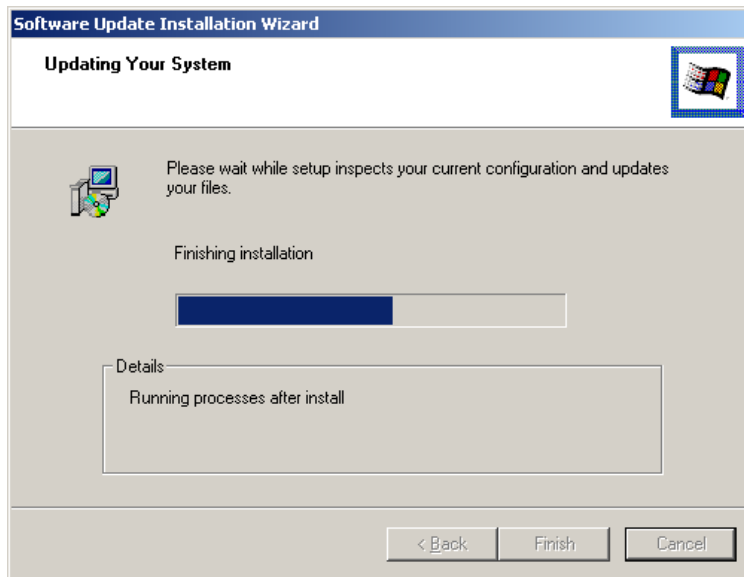

Figure 7-31: Installation Wizard Updates the System
Step 12: The Installation Wizard updates the system as shown in Figure 7-31.